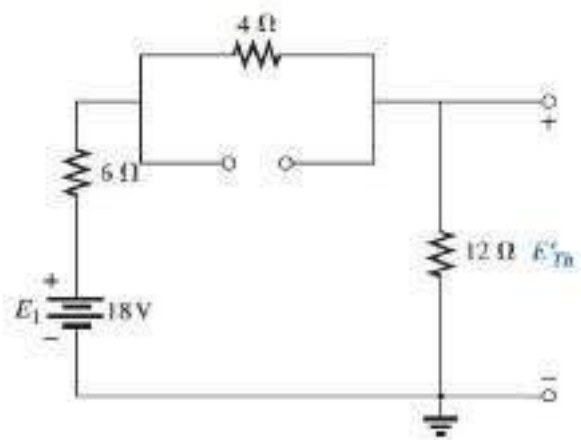

FIG. 9.57
Step 4: Applying the superposition theorem, we will first find the effect of the voltage source on the Thévenin voltage using the network of Fig. 9.57. Applying the voltage divider rule: